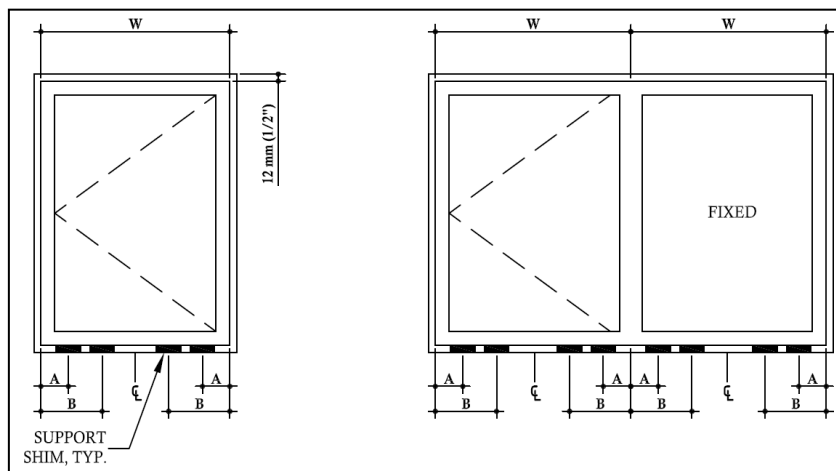

Figure 3-3. Where to put the frame support shims- Interior view
2.4 Shim sill of window 2 1/2" from the corners and on both sides of any mullions with 4" x 1 1/2" shims (See fig. 3-3). **Adjust the height of the shims to obtain a level sill**, ensuring you have 3/8" gap at the head (inter-story deflection not to exceed $\pm 3/8"$).